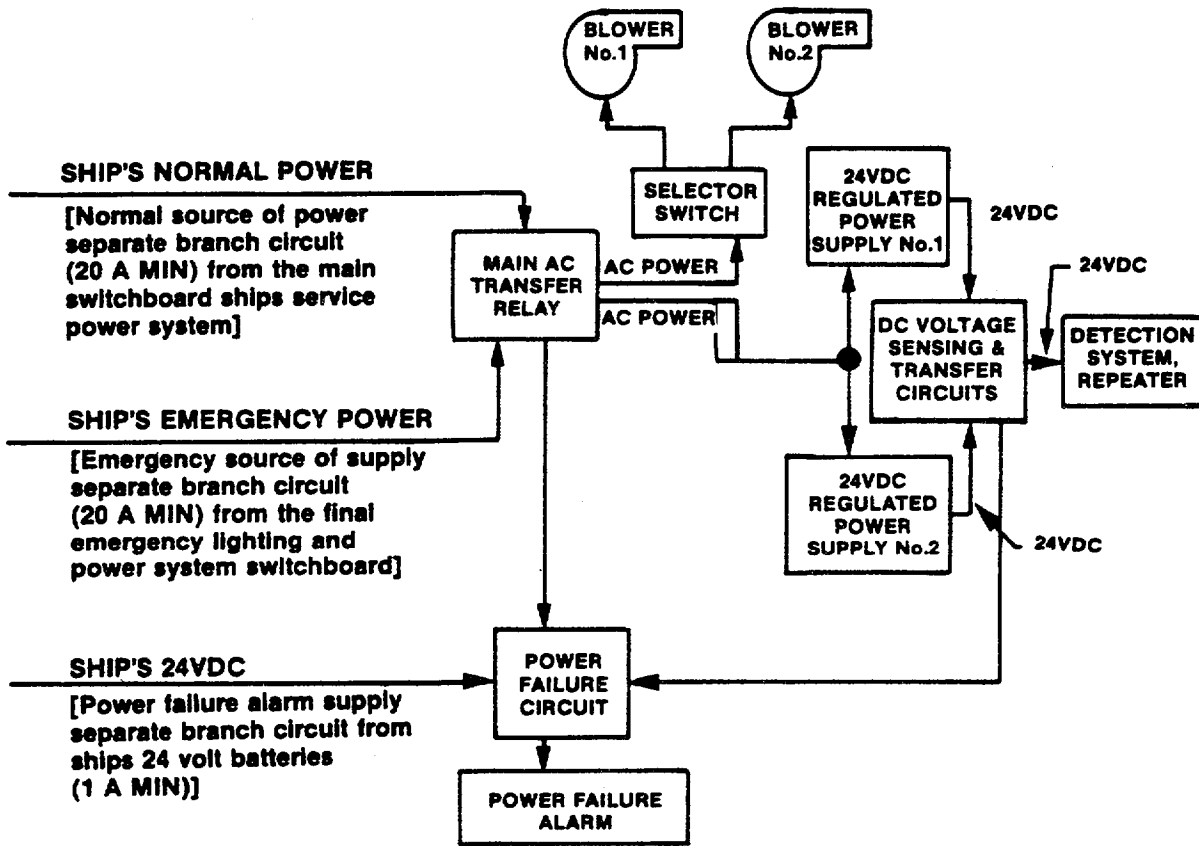

Figure 3-1. Principal Internal and External Elements of System's Power Supply
- 3.3 Figure 3-1 shows the principle elements of the system's internal and external power supplies.